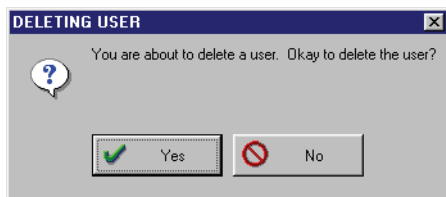

Figure 4-39: Deleting User Confirmation Window
3. Click on the  button. A deletion confirmation window appears (see Figure 4-39).